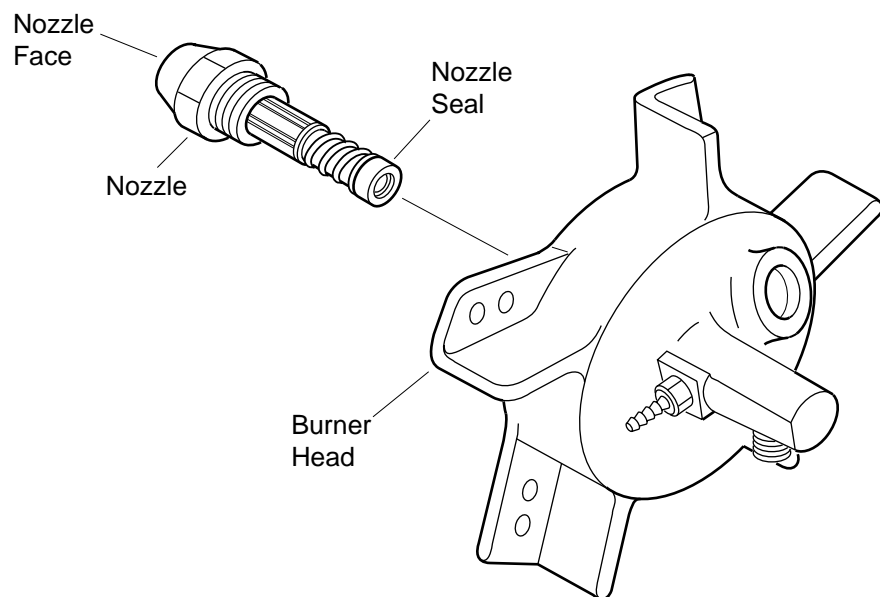

Figure 16 - Removing Nozzle
9. Carefully remove nozzle from burner head using 5/8" socket wrench (see Figure 16).